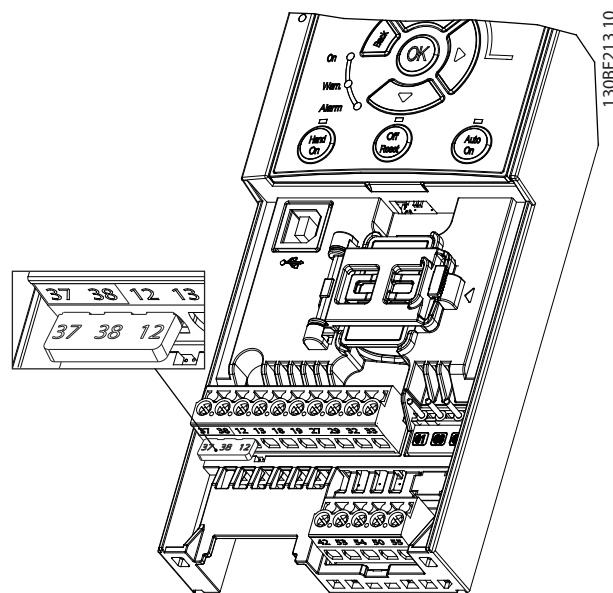

Figure 6.3 Jumper between Terminal 12 (24 V), 37 and 38
1. Remove the jumper between control terminals 12 (24 V), 37 and 38. Cutting or breaking the jumper is not sufficient to avoid short-circuiting. See the jumper in Figure 6.3.